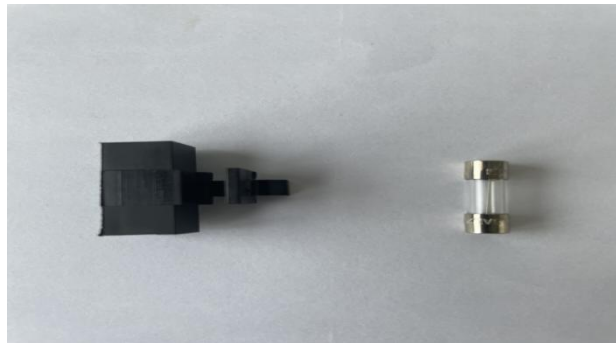

Figure 9-3 Take Fuse Tube
- b. Please take off the original fuse and replace it with a new one, as shown in figure 9-3.